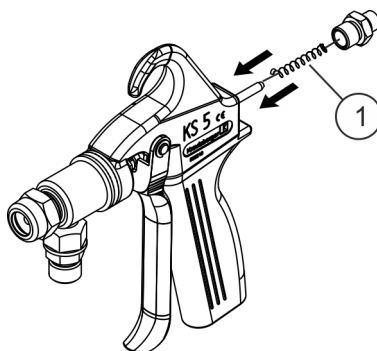

Fig. 28: Push the spring over the needle bolt into the main element
7.  Push the spring (Fig. 28/1) over the needle bolt into the main element.